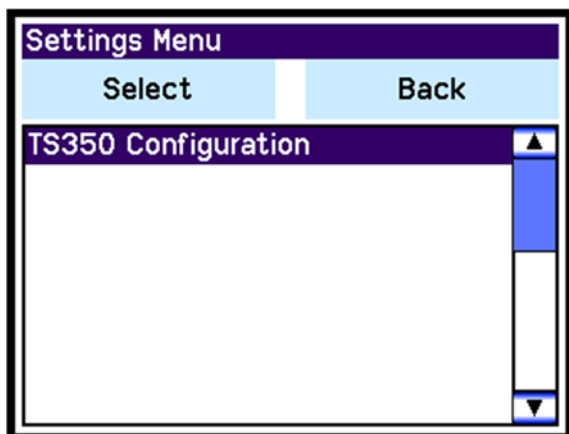

Figure 12
- **Settings Menu** will be displayed (**Figure 12**).